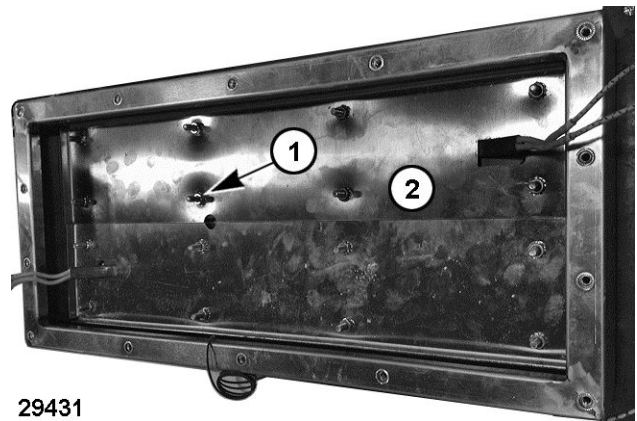

Fig. 29
- 9. Remove 16 mounting nuts (1, Fig. 29) securing heating element retainer (2, Fig. 29) to platen.